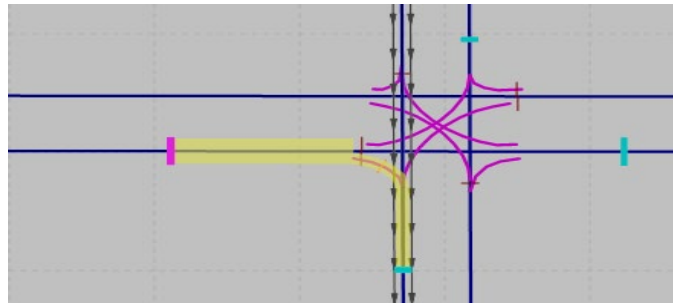

Figure 23: Right-turn vehicle route
- Left-click at that end location. You should again see the path highlighted in yellow (see Figure 23).